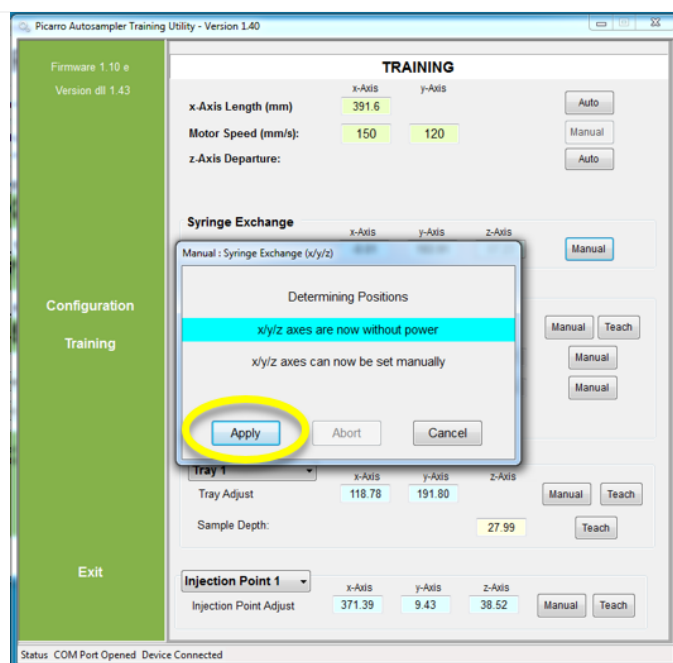

Figure 144. Click Apply for Tray Adjust.
STEP 21 | Return to the application and click “**Apply**” on the pop-up window to activate the test run of the Tray Adjust to Vial 1 manual setting (**Figure 144**).